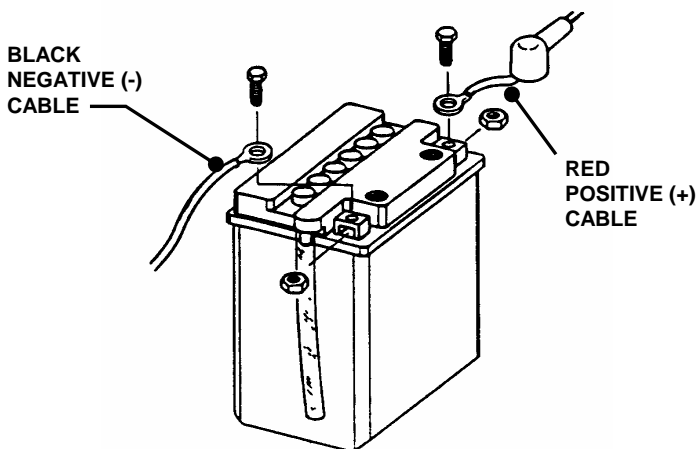

FIGURE 4.14
2. Observe and note cable positions on battery. See Figure 4.14.
2. Connect cables to battery terminals. Connect RED (Positive) cable first. Connect BLACK (Negative) cable. See Figure 4.14.